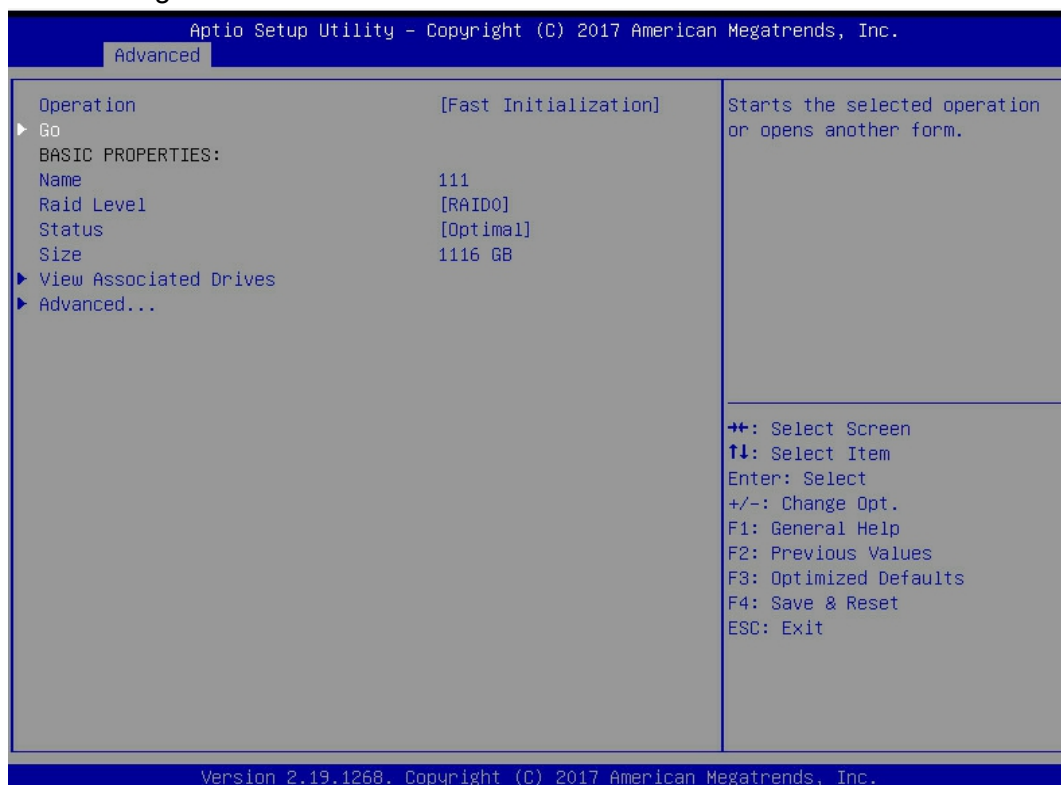

Figure 6-68
- d) Enter the interface shown in figure 6-68, select go and press enter.
✧ Figure 6-68 select go